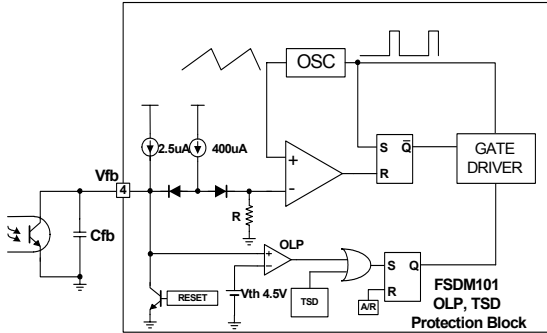

Figure 7. Protection Block
4. Protection Circuit : The FSDM101 has three self protection functions: over-load protection (OLP), thermal shut-down (TSD) and over-voltage protection (OVP). Because these protection circuits are fully integrated into the IC with no external components, system reliability is improved without any cost increase. If either of these functions are triggered, the FPS starts an auto-restart cycle. Once the fault condition occurs, switching is terminated and the MOSFET remains off. This causes Vcc to fall. When Vcc reaches the UVLO stop voltage (7V), the protection is reset and the internal high voltage current source charges the Vcc capacitor. When Vcc reaches the UVLO start voltage (9V), the device attempts to resume normal operation. If the fault condition is no longer present start up will be successful. If it is, however, still present, the cycle is repeated. This is shown in Figure 7.